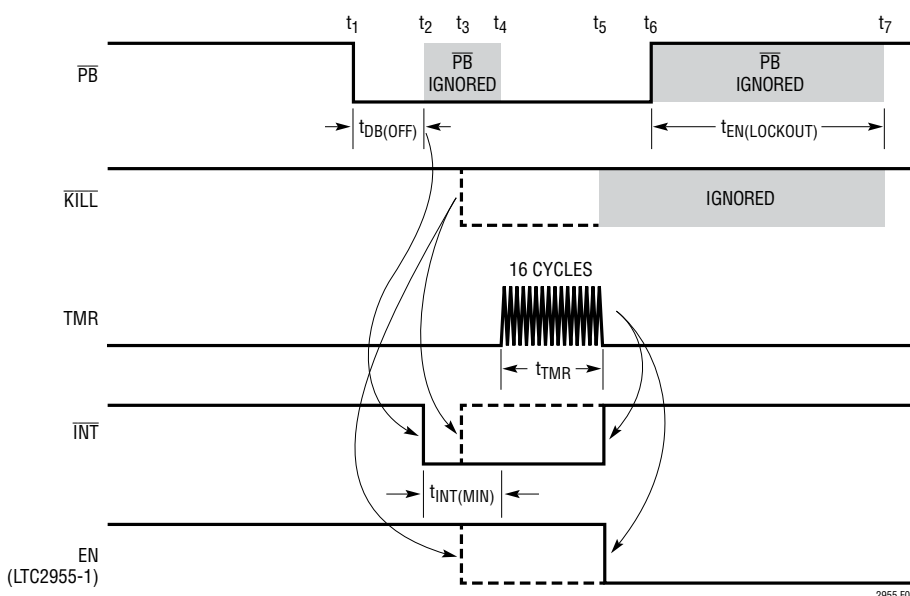
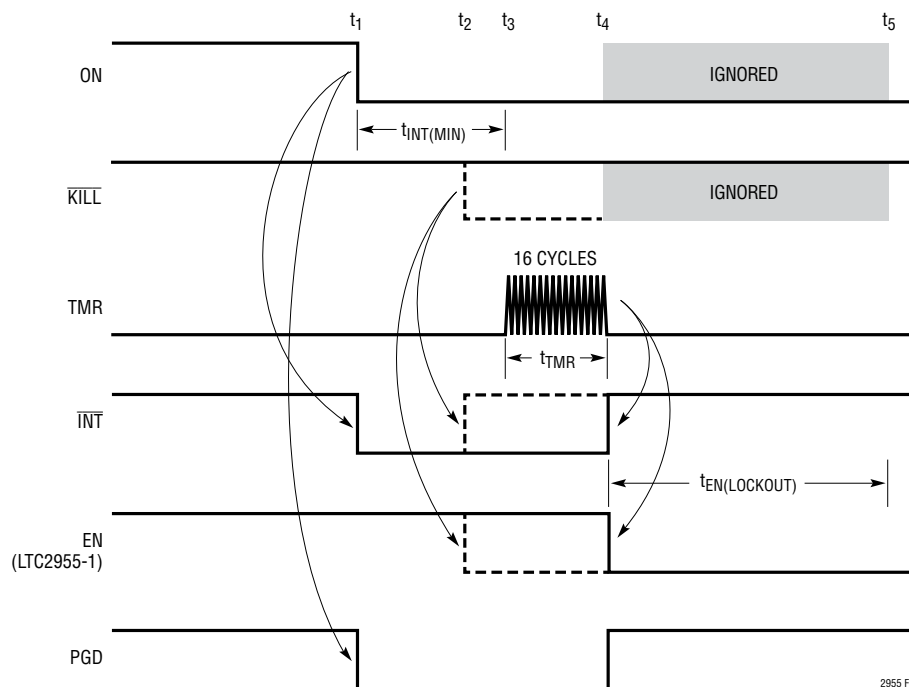

Figure 3. Pushbutton Turn-Off Timing
Figure 5. ON Pin Turn-Off Timing (DFN Only,  $V_{SEL} > 1.2V$  and the Preceding Turn-On Sequence Was Initiated by the ON Pin Rising Edge)
Figure 3 shows the turn-off sequence of the LTC2955-1 initiated through the  $\overline{PB}$  pin. A turn-off sequence refers to the LTC2955-1 releasing the EN output. This turns off the voltage regulator.
A high to low transition on  $\overline{PB}$  ( $t_1$ ) starts the turn-off sequence. In order to assert  $\overline{INT}$  (interrupt output) low,  $\overline{PB}$  must stay low continuously for 32ms ( $t_{DB(OFF)}$ ). At the end of the 32ms ( $t_2$ ), the  $\overline{INT}$  pin is asserted low and will stay low for at least 32ms ( $t_{INT(MIN)}$ ), even if the  $\overline{PB}$  pin goes high during this period ( $t_2$  to  $t_4$ ). When the  $\mu P$  receives this interrupt signal, it should start to perform its power-down functions and assert  $\overline{KILL}$  low ( $t_3$ ) once it is done. The LTC2955-1 will then release  $\overline{INT}$  and pull EN low, thus turning off the system power, as shown with dotted lines in Figure 3.
high). This can be done by holding the pushbutton down for a long period ( $> t_{DB(OFF)} + t_{INT(MIN)} + t_{TMR}$ ) as shown with the solid lines in Figure 3. If the  $\overline{PB}$  pin remains low at the end of the 32ms minimum  $\overline{INT}$  pulse width ( $t_{INT(MIN)}$ ), the external timer will start counting ( $t_4$ ).
After the EN output goes low and the  $\overline{PB}$  pin goes high, the LTC2955-1 starts the one second lockout time ( $t_{EN(LOCKOUT)}$ ). During this lockout time ( $t_6$  to  $t_7$  in Figure 3)
Figure 5 shows the turn-off sequence of the LTC2955-1 initiated by the ON pin. The timing sequence is slightly different from that by the pushbutton as there is no debounce time ( $t_{DB(OFF)}$ ) before the  $\overline{INT}$  pin pulls low. The ON pin falling edge can start the turn-off sequence only if the following two conditions are met: (1) The preceding turn-on sequence was initiated by the ON pin rising edge, and (2) The SEL pin must be tied high ( $>0.8V$ ). For TS8 package, the ON pin falling edge is ignored.
In Figure 5, a high to low transition at ON ( $t_1$ ) starts the turn-off sequence. The interrupt output ( $\overline{INT}$ ) is asserted immediately when the ON pin goes low. Unlike the  $\overline{PB}$  pin turn-off sequence, there is no 32ms debounce time ( $t_{DB(OFF)}$ ) for the ON pin going low. This allows the system to initiate a shutdown as soon as the monitored supply is removed and allows the  $\mu P$  the maximum amount of time
to perform power-down functions. The  $\overline{INT}$  pin will stay low for at least 32ms ( $t_{INT(MIN)}$ ). When the  $\mu P$  receives this interrupt signal, it should start to perform its power-down functions and assert the  $\overline{KILL}$  input low ( $t_2$ ) once it is done. The LTC2955-1 will then release the EN and  $\overline{INT}$  outputs, thus turning off the system power, as shown with dotted lines in Figure 5.
If the  $\mu P$  fails to respond ( $\overline{KILL}$  pin remains high, as shown with solid line in Figure 5) and the ON pin remains low after  $\overline{INT}$  goes low, the external timer will start counting for 16 cycles ( $t_{TMR}$ ,  $t_3$  to  $t_4$ ). If the ON pin remains low at the end of the 16 cycles ( $t_4$ ), the LTC2955-1 will force the EN pin low and the  $\overline{INT}$  pin high. See Applications Information for adjusting  $t_{TMR}$ .
The LTC2955 allows the user to force the system power to turn off if the  $\mu\text{P}$  fails to respond during fault conditions. As shown by the solid lines in Figure 3 and Figure 5, when the  $\mu\text{P}$  fails to bring the  $\overline{\text{KILL}}$  pin low after the interrupt signal is asserted, the user can force a turn-off by holding down the pushbutton. The length of time that  $\overline{\text{PB}}$  must be held low is given by a fixed 64ms delay ( $t_{\text{DB(OFF)}} + t_{\text{INT(MIN)}}$ ) plus an adjustable power-down timer delay ( $t_{\text{TMR}}$ ). The adjustable delay is set by placing an optional external capacitor on the TMR pin. Use the following equation to calculate the capacitance for the desired delay.  $C_{\text{TMR}}$  is the external capacitor at the TMR pin: